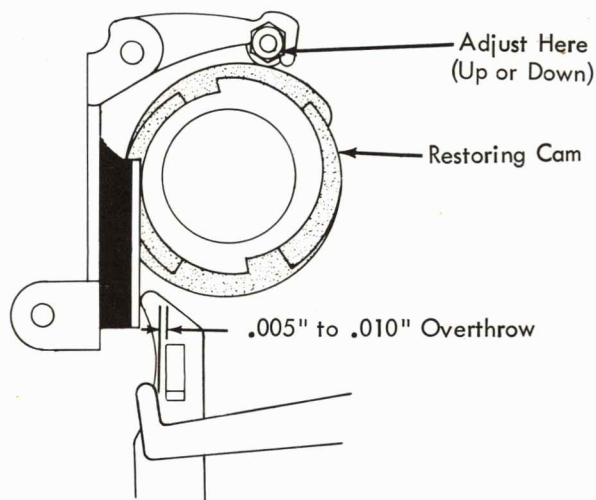

FIGURE 21. Restoring Roller
4. Cycle Clutch Latch Restoring (Fig. 21) - Position the restoring roller so that the trip lever overthrows the latch lever by .005" to .010" at its latching point on the low side of the restoring cam.